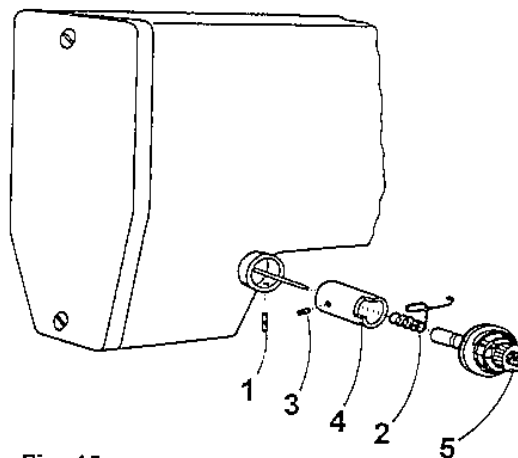

Fig. 15
22. To adjust the operation of the adjusting spring (Fig. 15)